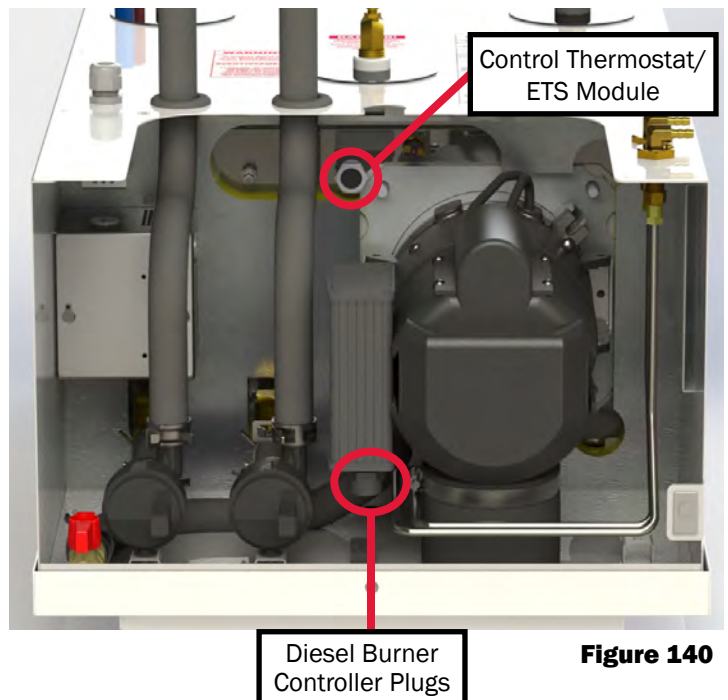

Figure 140
- Unplugging the diesel burner controller (Figure 140)